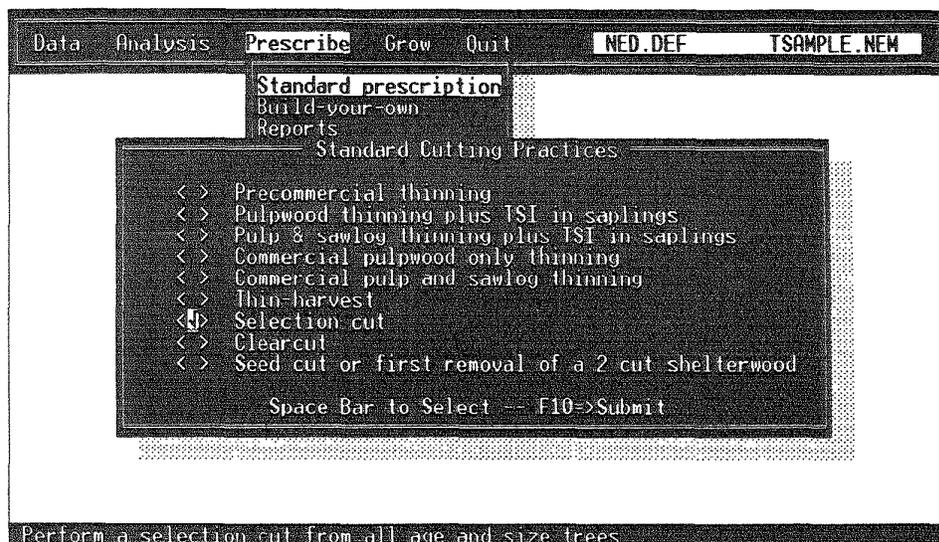

Figure 20. -- Standard Cutting Practices window.
**Operation:** The standard prescription method allows you to select one of nine standard silvicultural treatments (Fig. 20). Your objectives, stand structure, species composition, and all other relevant factors should be taken into consideration before selecting one of the standard cutting procedures. The treatment can be modified by regulating the minimum residual density and the maximum density to be removed using the selected treatment. The maximum amount to remove will prevent excessively heavy cuts in stands that are at or above full stocking. If the cut is an uneven-age cut, you will be asked to specify the maximum tree size and the "Q" factor for the cut. If the cut is an even-age cut, you will be asked to specify the proportion of removals to come from below the medial stand diameter. Again, this controls the residual stand structure, and you need to understand the silvicultural implications of these parameters to use these options wisely. If you are unsure, use the NED/SIPS default values for these parameters. A brief description of each of the individual cutting procedures is provided.
**Operation:** Using the Build-Your-Own option, you can specify the species, size, and quality of trees that you want to cut. As in the Standard Prescriptions, you must first set certain treatment density parameters. In this example, you will specify the minimum residual density and the maximum density to be removed. Once you have set these parameters, press **PG DN** to enter the cutting specifications form (Fig. 20).